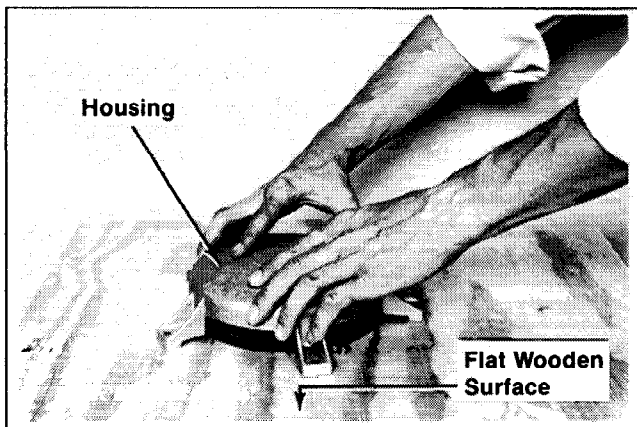

Figure 7-18. Removing Spring From Housing.
4. Lift the housing and rap it firmly against the wooden surface. Repeat this procedure until the spring is released from the spring pocket in housing. Refer to Figure 7-18.